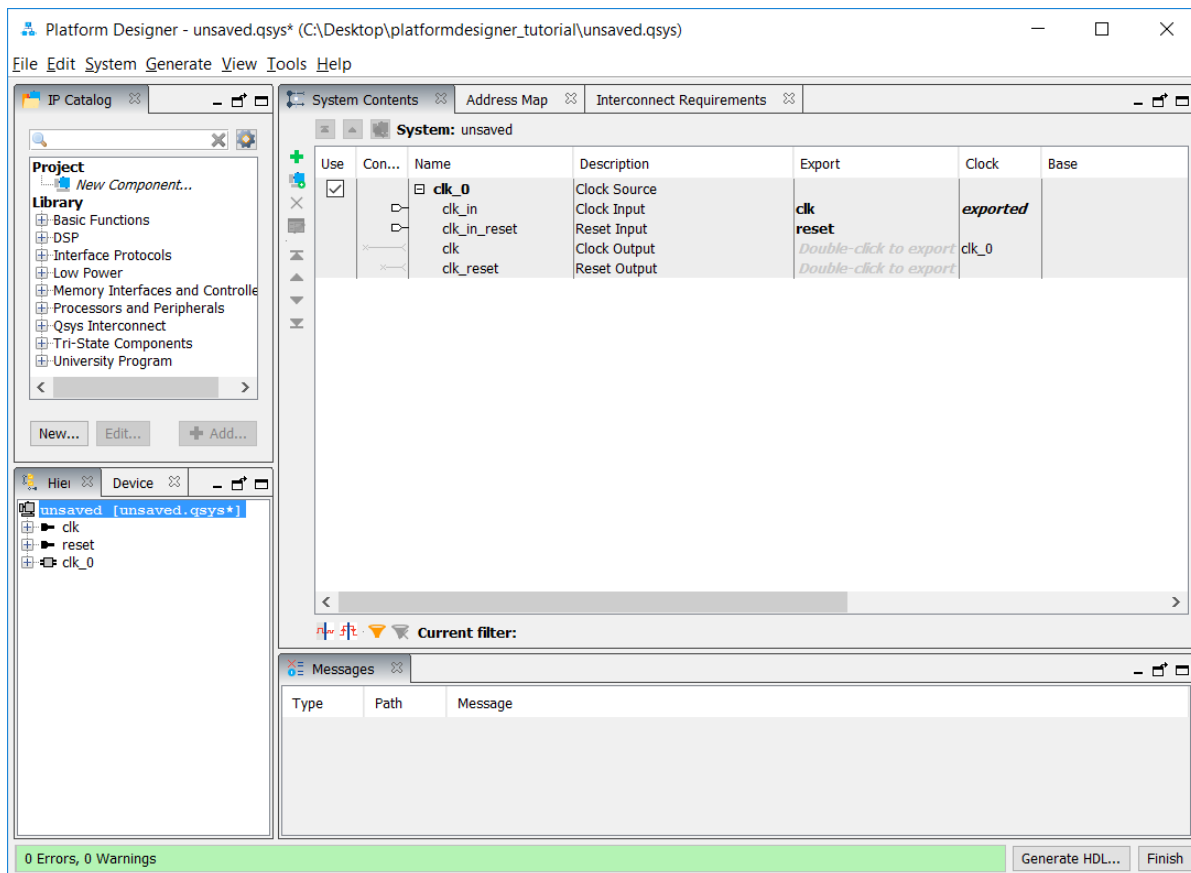

Figure 4. Create a new Nios II system.
- After completing the New Project Wizard to create the project, in the main Quartus Prime window select **Tools > Platform Designer**, which leads to the window in Figure 4. This is the System Contents tab of the Platform Designer tool, which is used to add components to the system and configure the selected components to meet the design requirements. The available components are listed on the left side of the window.